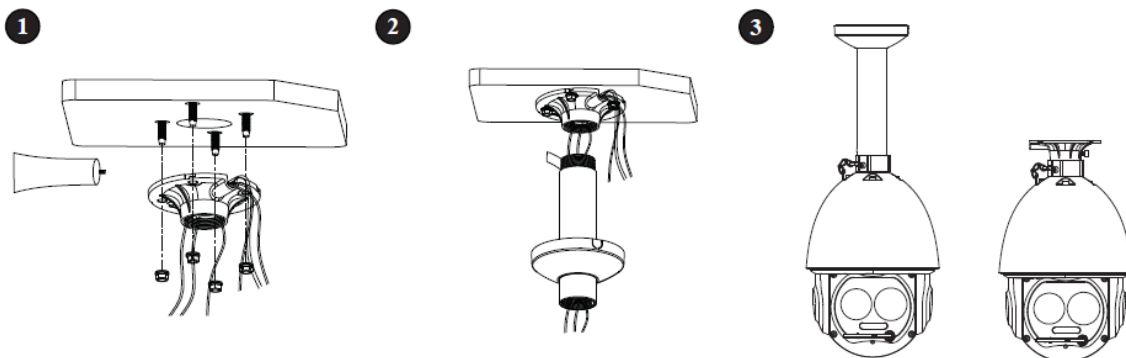

Figure 3-4
Split the connection tray and the connection rod, dig holes on the installation surface, insert expansion bolts and paste glass cement on it to make it sealed and waterproof, as it is shown in Figure 3-4 (1).
Pull the cable through the connecting pole, twine the Teflon tape around the connecting pole and fix it on the connection tray, as it is shown in Figure 3-4 (2).
Check if the thermal hybrid dome is installed firmly and complete the installation of the unit device, as it is shown in Figure 3-4 (3).
Step 3 Install controls according to the system prompt; see Figure 3-4 for the WEB main interface. Please modify the administrator password as soon as possible after you successfully logged in.